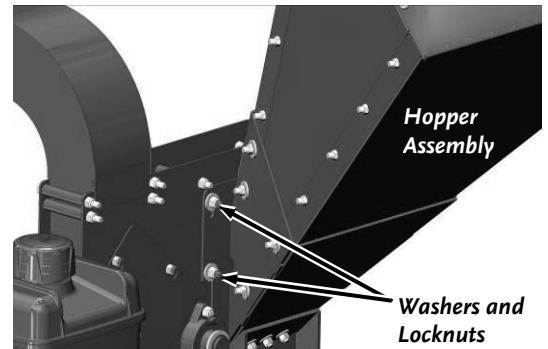

Figure 7
2. Lift the Hopper Assembly into position and loosely attach a Washer and Locknut to each of the two Housing Studs (**Figure 7**).